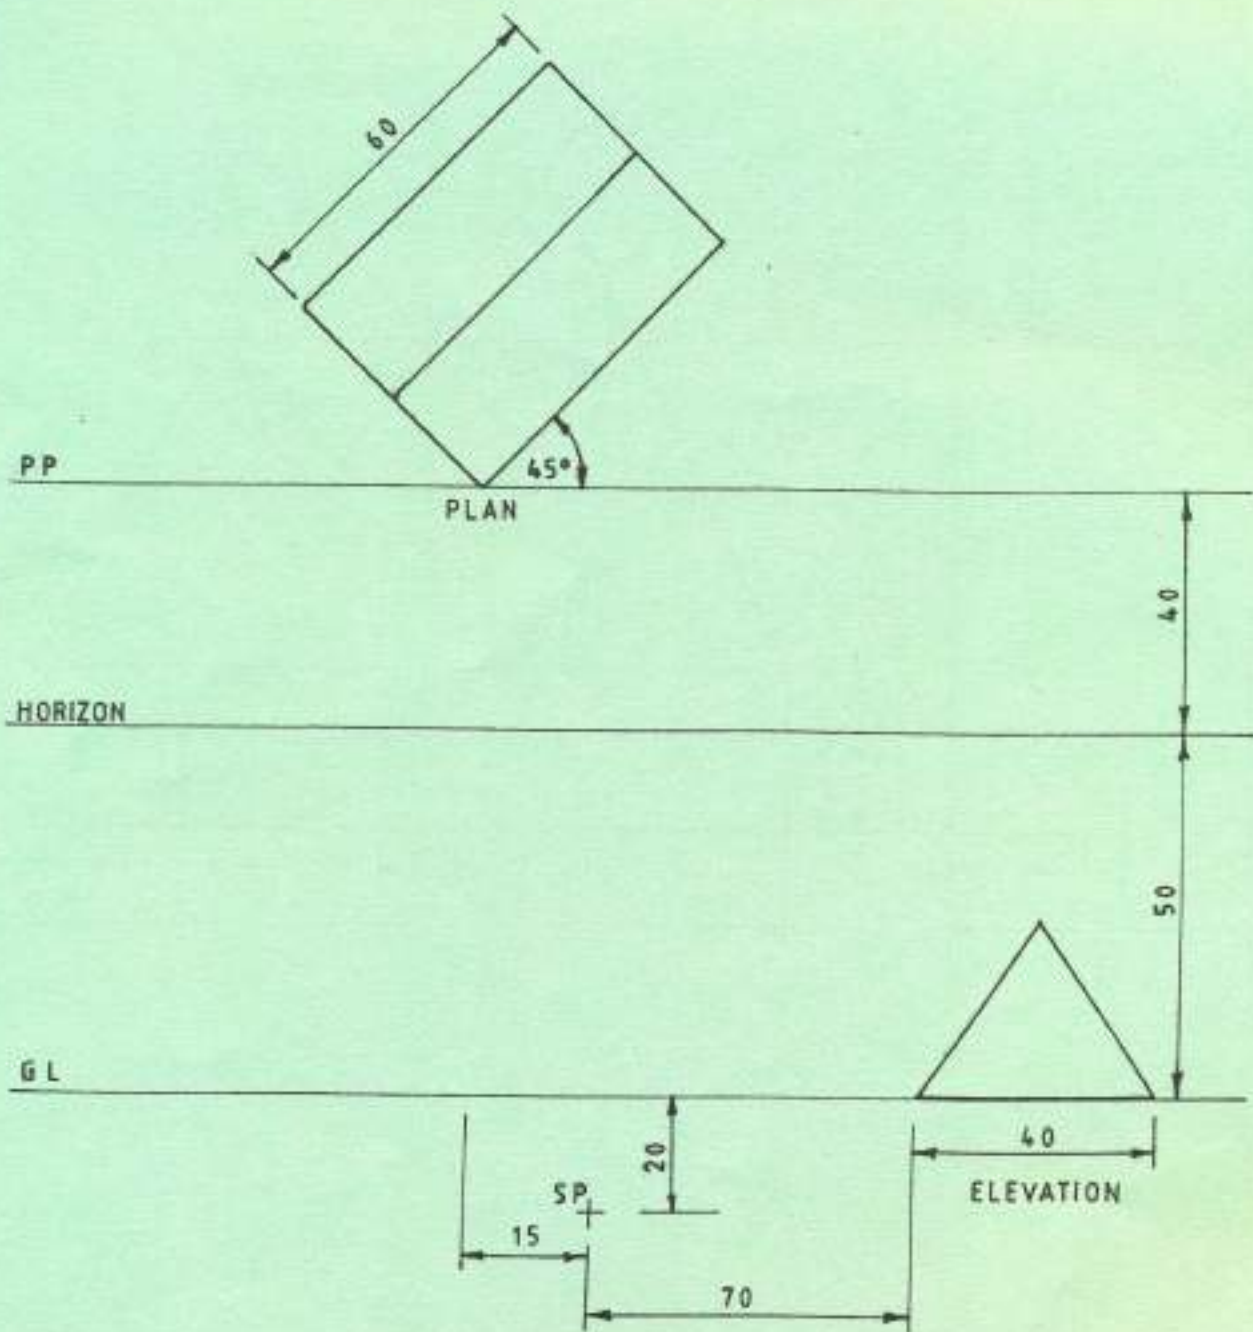

Fig. 4
5. Figure 4 shows two views of a triangular prism and its perspective layout. Copy the layout and draw the prism in two point perspective.